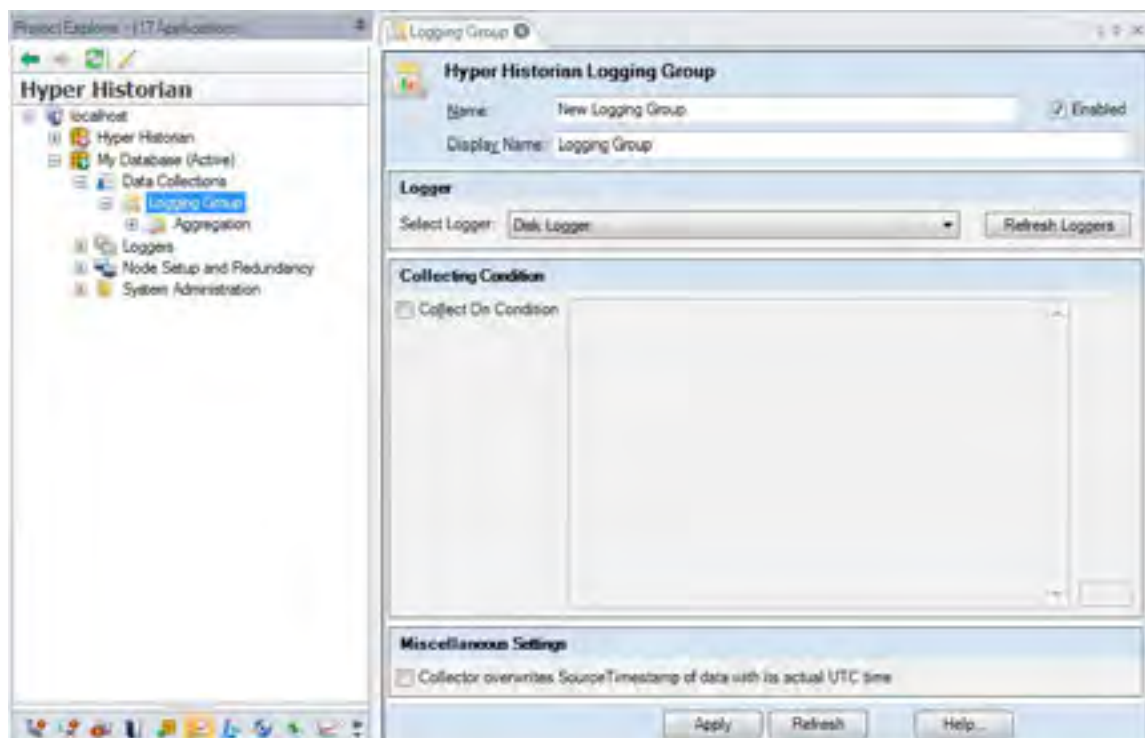

Figure L3.2 - Logging Group Configuration
4. Select the **Logger** that you created in a previous lab – **Disk Logger**. We are not going to enable Condition logging nor do we want our data to bear the Data Collector’s timestamp, so we will leave the remaining checkboxes empty. Your form should look like Figure L3.2.